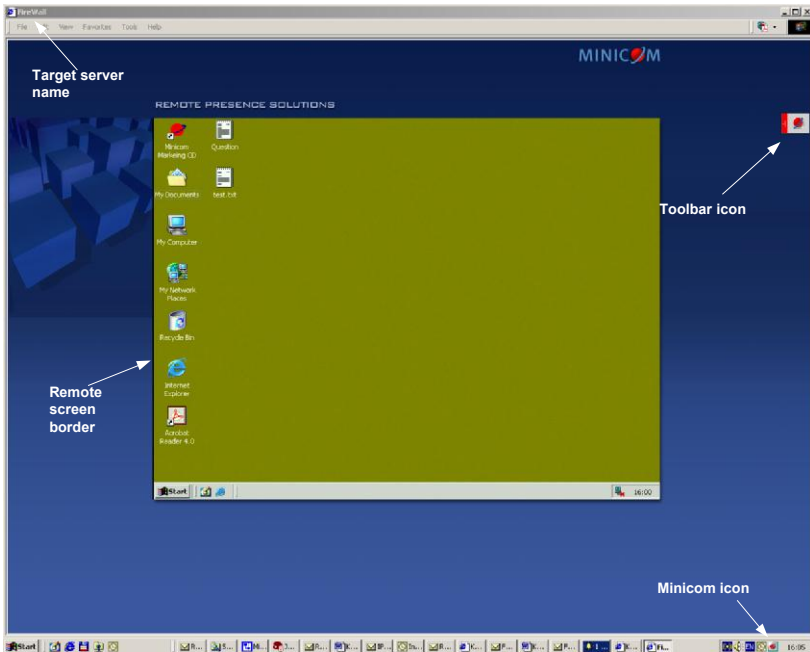

Figure 34 Remote console window
3. Click the desired server or Serial device. The screen of the server or the Serial device window appears. See Figure 34.